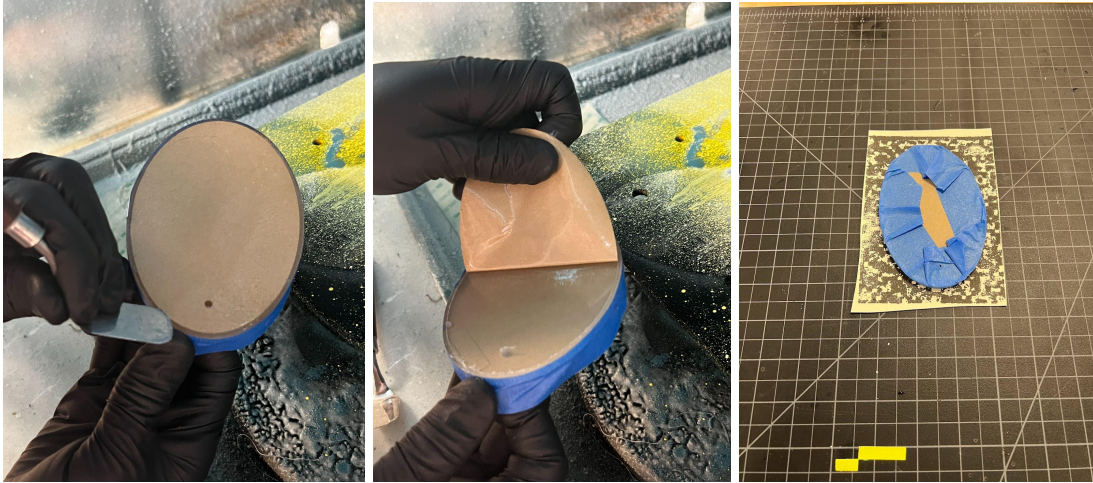

Figure 53: Removing interior paper and adhering to latex.
10. Quickly remove the rest of the interior paper using a spudger to peel off the edge, then immediately place the glued surface face down on the matte/patterned side of the latex (Fig. 53).